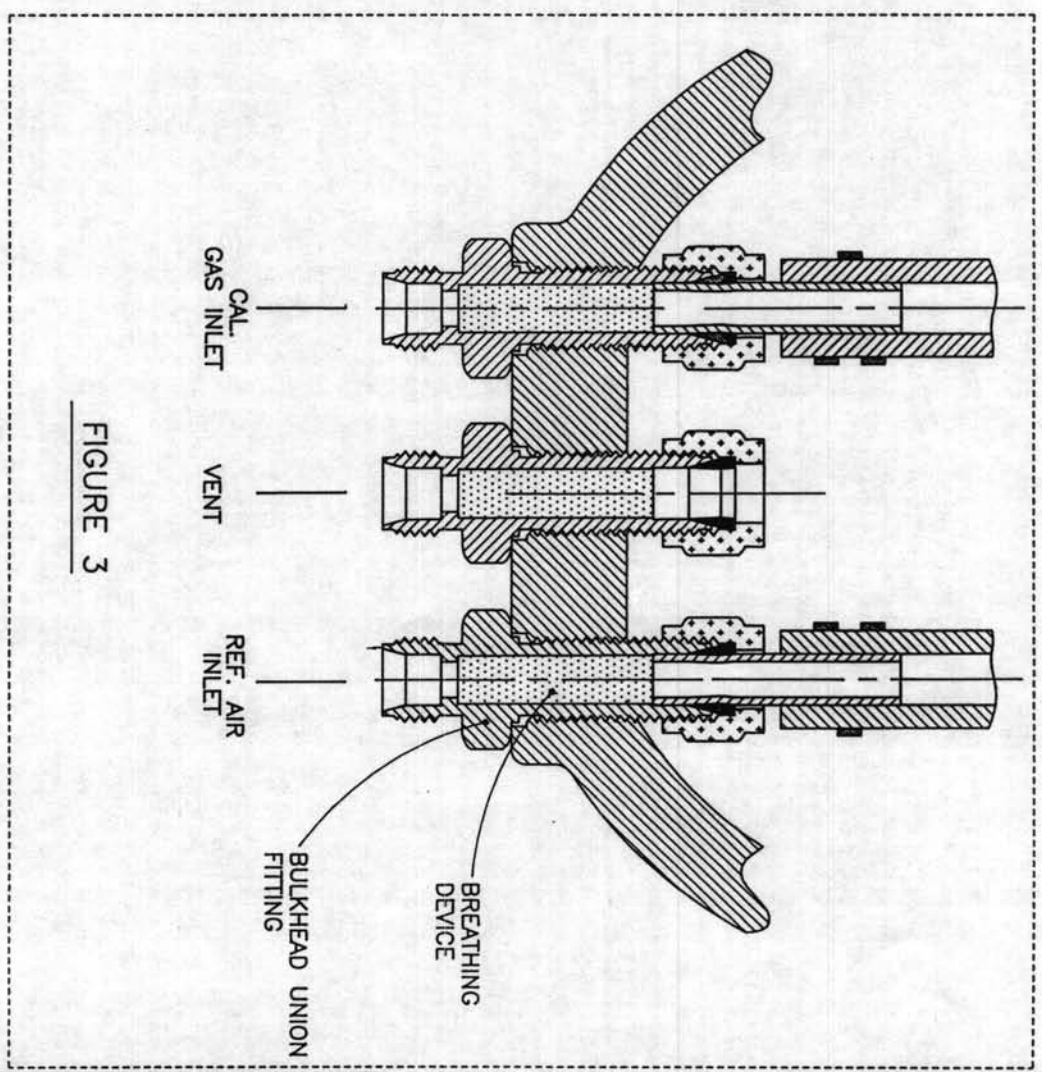

FIGURE 3
(4) BREATHING DEVICES: EACH OF THE THREE BULKHEAD UNION FITTINGS (ITEM 8) HAS BEEN FITTED WITH A CAPILLARY ARRAY, (BREATHING DEVICE): SEE FIGURE 3. WHEN FITTING TUBING, (0.25 INCH O/D), TO THE REFERENCE AIR AND CALIBRATION GAS PORTS, TAKE CARE NOT TO DAMAGE THE BREATHING DEVICES. THE VENT PORT SHOULD BE LEFT CLEAR OF OBSTRUCTIONS.